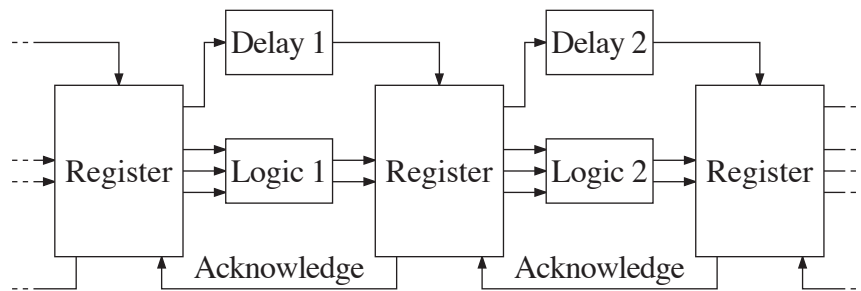

Figure 1. Asynchronous design strategy.
3. An asynchronous design strategy is illustrated in Figure 1.